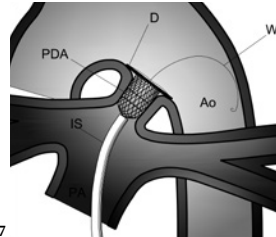

Fig. 17
- Keep tension on the pusher cable while slowly withdrawing the Implantation Sheath (IS). At this point you can see the final configuration of the Nit-Occlud® PDA-R (D). Fig. 17.